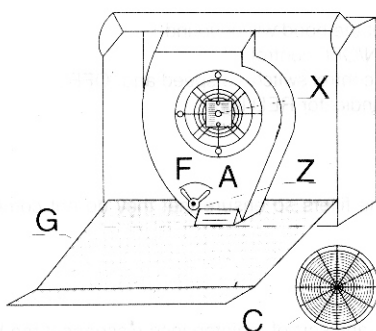

Fig. 2
- B) Open and hinge down the grill G (see fig.2).
- C) Move the small lever Z from position A to position F (see fig.2).
- B) Release and hinge down the grill G (See fig.2).
- B) Release and hinge down the grill G (See Fig. 2).
INTERNAL RECIRCULATION (See Fig. 2)